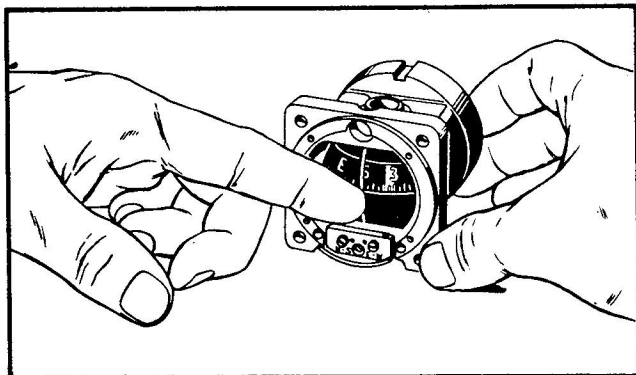

Figure 2-8. Adjusting the Lubber Line
d. Without moving the block, place the compass being overhauled in exactly the same position on the locating block and allow the card to settle. The reading should be exactly the same as the test compass reading. If a slight variation exists, press the lubber line carefully with the tip of the finger, while holding the compass tightly against the locating block, to prevent any movement. (See figure 2-8.) The lubber line can be slightly bent in this manner if care is exercised. After the lubber line is in correct alignment with the proper mark on the card, check for vertical positioning and straighten if necessary. The lubber line must also clear the dial when the compass is tilted as much as 18 degrees.